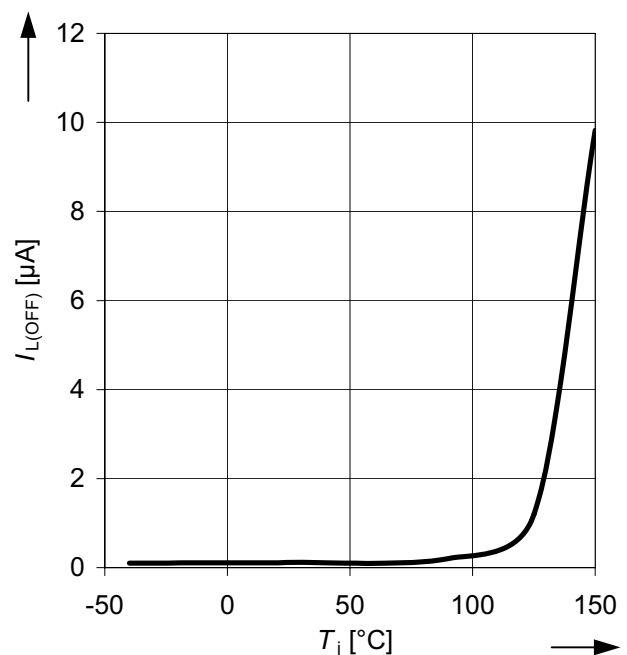

Figure 27 Typ. output leakage current $I_{L(OFF)}$ as a function of the junction temperature T_j
3) See Figure 27 for typical temperature dependency.